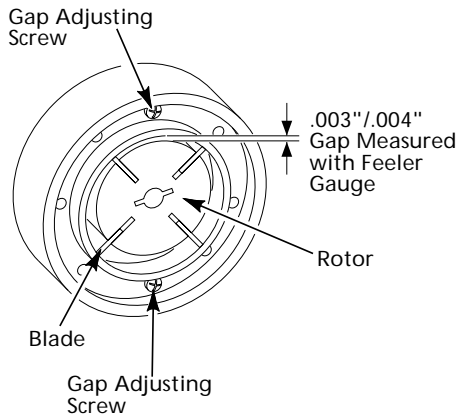

Figure 31 - Gap Adjusting Screw Locations
9. Check gap on rotor. Adjust to .003" / .004" if needed (see Figure 31, page 11).